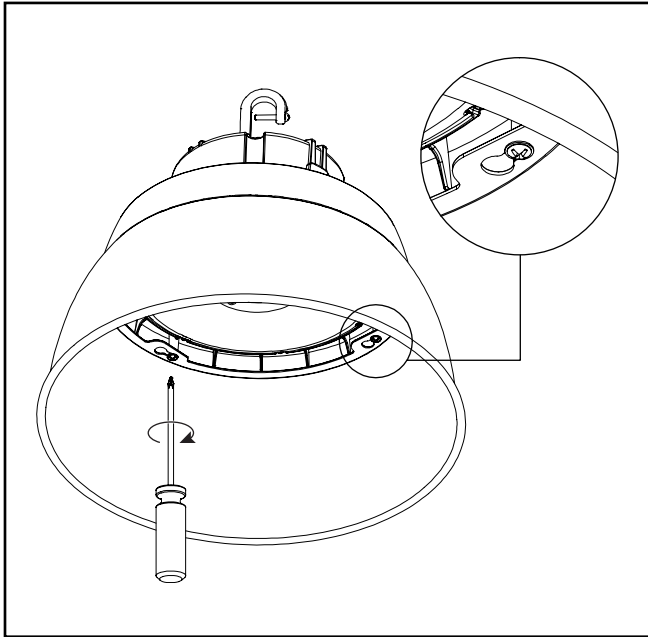

Figure 9.
3. Tighten all the screws. (Figure 9.)